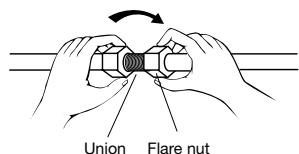

Figure 17
9. For proper connection, align the union tube and flare tube straight with each other, then screw in the flare nut lightly at first to obtain a smooth match (Figure 17).